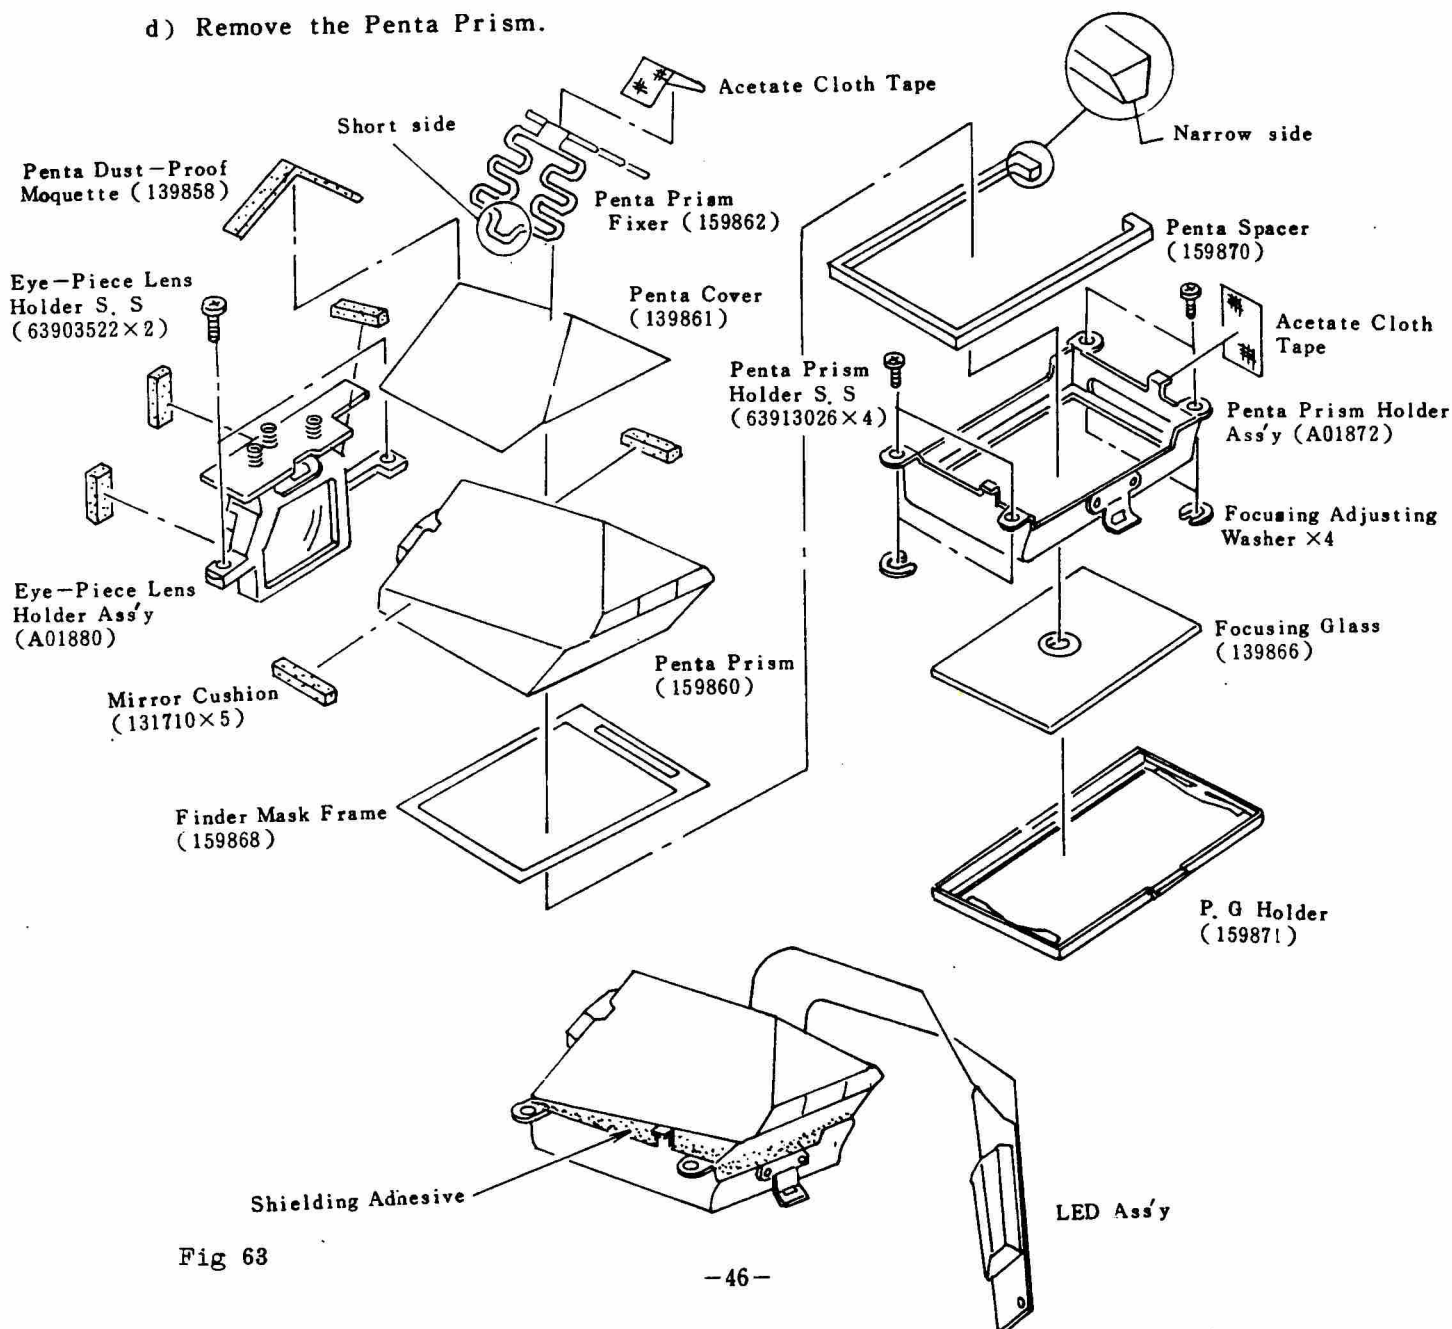

Fig 63
- c) Remove the shielding adhesive from around the Penta Prism as shown in (Fig 63).
When the finder focus error is out of  $\pm 1/4$  " range (Fig 68) adjust the finder focus by changing the Focusing Adjusting Washers (Fig 63).